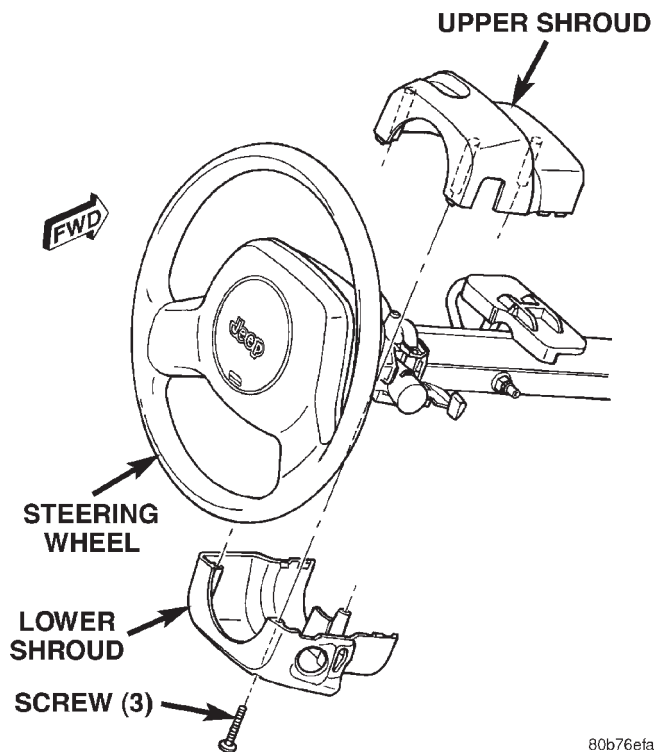

Fig. 20 Steering Column Shrouds Remove/Install
(2) Remove the driver side airbag module from the steering wheel. Refer to **Driver Side Airbag Module** in the Removal and Installation section of this group for the procedures.
(3) If the vehicle is so equipped, disconnect the upper clockspring wire harness connector from the steering wheel wire harness for the vehicle speed control switches located within the hub cavity of the steering wheel.
(4) Remove the nut that secures the steering wheel armature to the steering column upper shaft, which is located within the hub cavity of the steering wheel.
(5) Pull the steering wheel off of the steering column upper shaft spline using a steering wheel puller (Special Tool C-3428-B).
(6) Remove the steering column opening cover from the instrument panel. Refer to **Steering Column Opening Cover** in the Removal and Installation section of Group 8E - Instrument Panel Systems for the procedures.
(7) If the vehicle is so equipped, move the tilt steering column to the fully raised position.
(8) Remove the three screws that secure the lower steering column shroud to the upper shroud (Fig. 20).